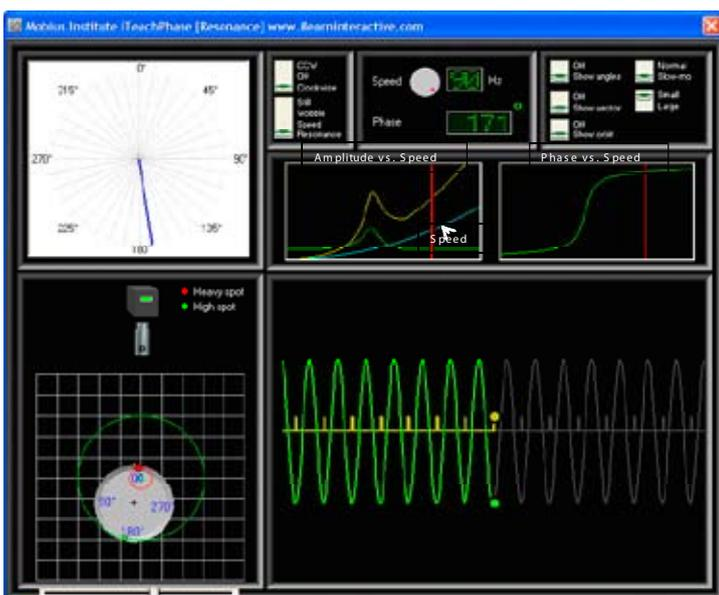

Figure 8 - Heavy Spot leads the High Spot by 180° well above shaft critical
- As the machine speed increases above shaft critical, the lag angle increases above 90° up to 180°. The system lag is 180° at speeds well above shaft critical (Figure 8).